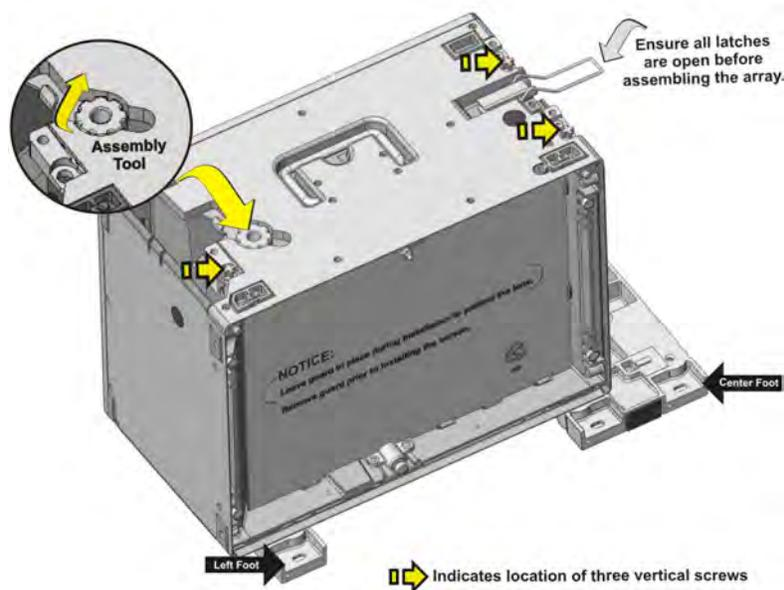

Figure 2-5 Assembly Tool and Leveling Feet
1. Ensure the latches on each tile are open before beginning (**Figure 2-5**).
2. Assemble the first tile in the array to a left and center leveling foot (**Figure 2-5**).
3. Insert the three vertical screws that are shipped with the Christie MicroTiles into the three positions indicated in **Figure 2-5**.
4. Detach the assembly tool from the top of the Christie MicroTiles and hand-tighten the three vertical screws to mount the tile to the feet (**Figure 2-5**). **DO NOT** completely tighten the screws at this point to allow for adjustments. **NOTICE! DO NOT use power tools to tighten the vertical screws. DO NOT use the vertical screws as anchors to hang the array.**